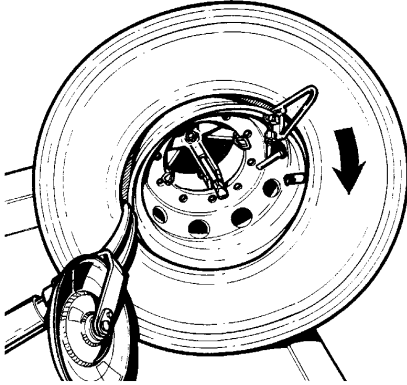

Fig.28
3. Lift the chuck arm and position the mounting hook or tubeless roller approximately 1.5 cm (1/2") to the inside of the rim edge and approx. 1.5 cm (1/2") away from the rim edge (Fig.28). The mounting clamp is at 11 o'clock approximately.